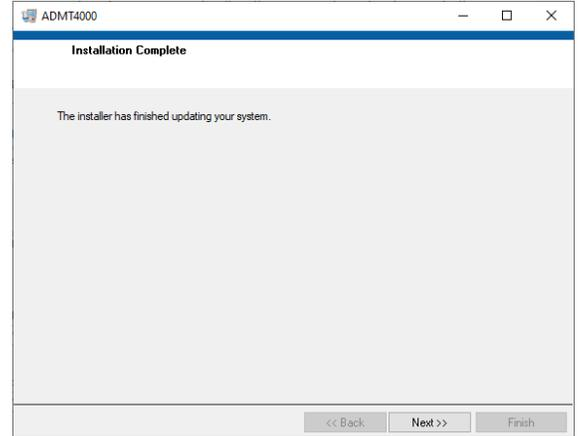

Figure 5. ADMT4000 Installation Complete
4. When the installation completes, click **Finish** (see Figure 5).